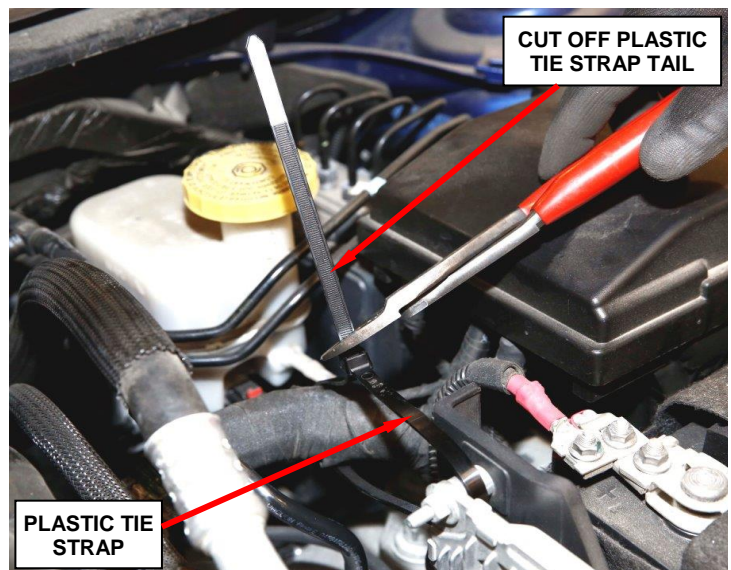

Figure 18 – Cut off Tie Strap Tail
30. Cut off plastic tie strap tail (Figure 18)